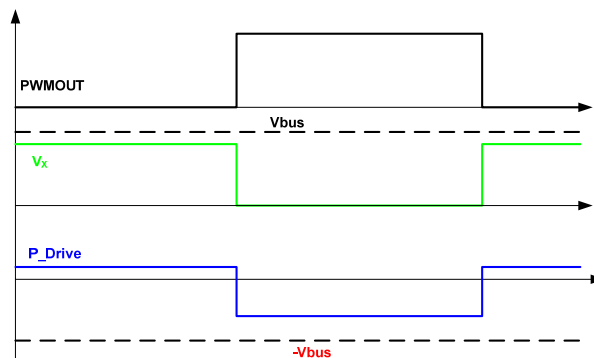
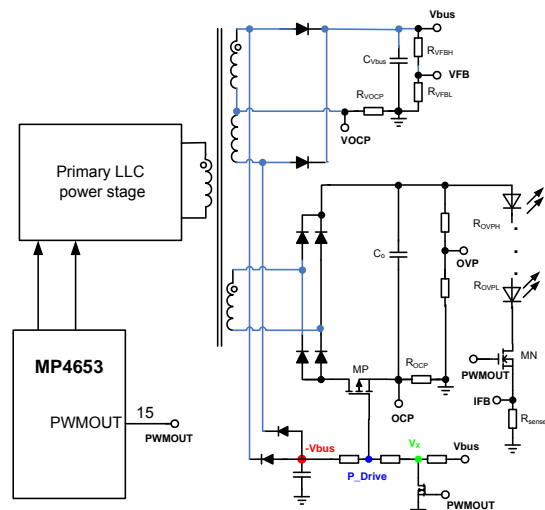

Figure 5B—Scheme of the PWMOUT Driving the P MOS
Figure 5A—PWMOUT for the P MOS Driver
The PWMOUT signal is also used to control the external P-MOS (MP) for protection, as shown in figure 5A. Figure 5B shows the operating scheme of this driving circuit. A negative voltage source ($-V_{bus}$) is generated from the secondary winding of DC bus stage. A pulse waveform at " V_X " is generated through the PWMOUT signal. By summing the negative voltage source and V_X , a pulse waveform with a negative magnitude is generated on "P_Drive" (the P-MOS gate) and is used to drive the P-MOS.